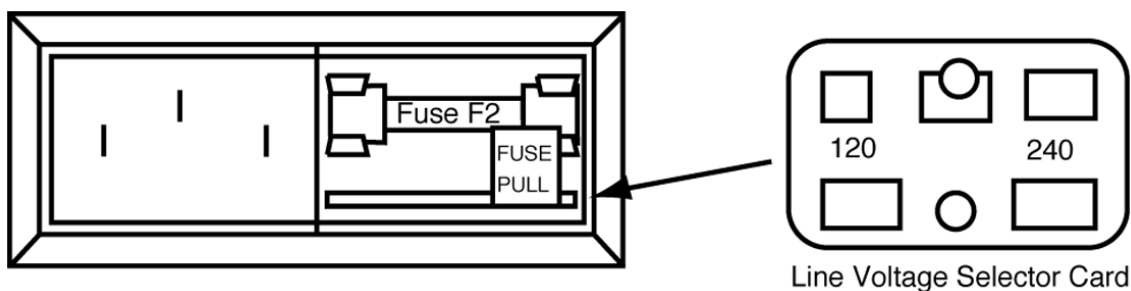

Figure 2-1 Line Voltage Selector on the rear of the 330 VGC
Verify that the line voltage selector card displays the line voltage value of the available local AC line voltage. If the card does not display the correct line voltage value as shown in Table 2-1, perform the following procedure and refer to Figure 2-1.
4. Reinsert the card so that the correct line voltage as shown in Figure 2-1 is readable from the rear of the VGC.